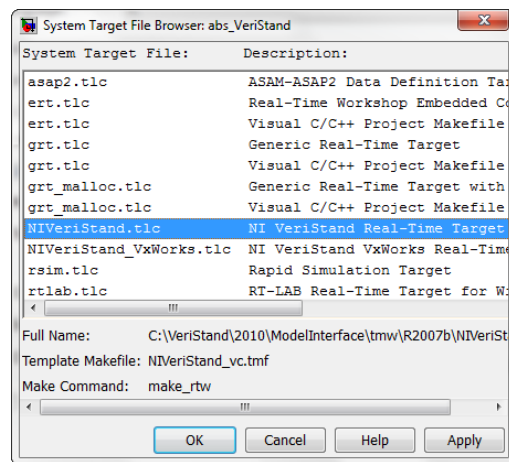

Figure 20. System Target File Browser for Simulink model.
17. In **Code Generation** (formerly, **Real-Time Workshop**), at **System target file**, click browse. Select **NIVeriStand.tlc** from the list of System Target Files in the window that pops up (Figure 20).